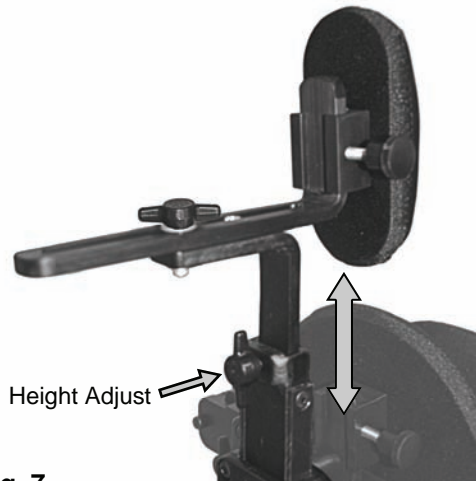

Fig. 7
- Insert the Headpad into the extension tube with pad facing forward - tighten adjustment screw (fig. 7)